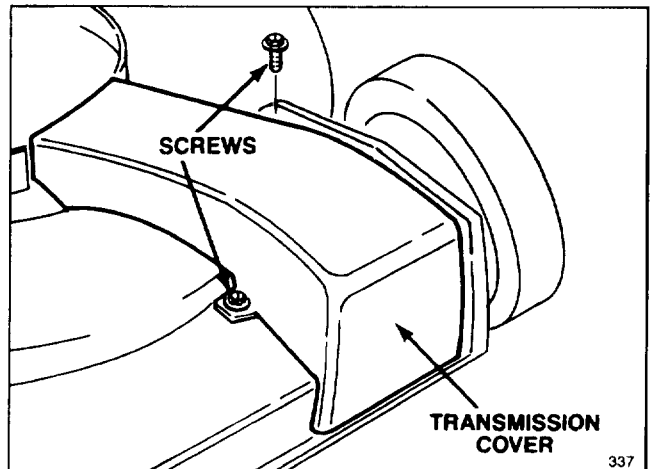

Figure 19
2. Remove two screws and lift off transmission cover (Fig. 19).
2. Remove transmission cover (Fig. 19).